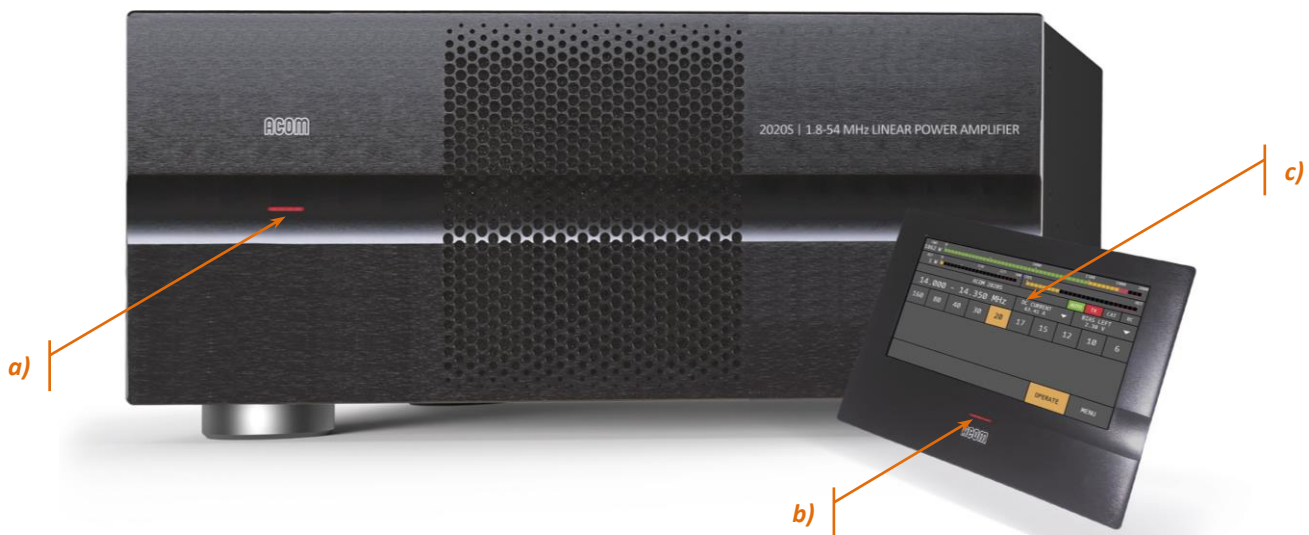

Figure 3-1 Amplifier and RCU Front panels - Controls and Readouts
Now you can turn on the amplifier's mains rocker switch (see **Figure 2-3 Amplifier rear panel - Connections**, Pos. (3)). This will activate only the low-energy STANDBY mode of the amplifier power supply and the red LED on amplifier's front panel will light up (see **Figure 3-1 Amplifier and RCU Front panels - Controls and Readouts**, Pos. (a)), as well as the red LED on RCU's front panel will light up also (see **Figure 3-1 Amplifier and RCU Front panels - Controls and Readouts**, Pos. (b)), while the amplifier's main power supply is still off and the RCU display is dark (see **Figure 3-1 Amplifier and RCU Front panels - Controls and Readouts**, Pos. (c)).
Please, see **Figure 3-1 Amplifier and RCU Front panels - Controls and Readouts**, Pos. (b).
When lit red and the RCU screen is dark (see **Figure 3-1 Amplifier and RCU Front panels - Controls and Readouts**, Pos. (c)), the amplifier is in low-energy STANDBY mode and may be turned on by pushing the **POWER** button.
Please, see **Figure 3-1 Amplifier and RCU Front panels - Controls and Readouts**, Pos. (c).
For this check the amplifier must be completely installed and connected according to Section **2 INSTALLATION**, but not powered by the mains, i.e., the main rocker switch on the rear panel (see **Figure 2-3 Amplifier rear panel - Connections**, Pos. (3)) must be turned off. In any case the red LED on amplifier's front panel (**Figure 3-1 Amplifier and RCU Front panels - Controls and Readouts**, (Pos. (a))), as well as the red LAD on RCU's front panel must be dark for this test.